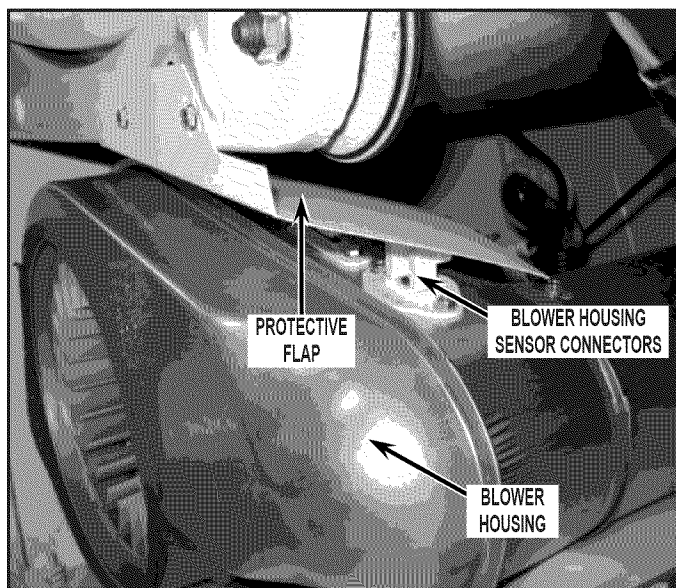

FIGURE 24
- Hanging above the blower housing is a protective flap. Verify flap is laying above the blower housing sensor connectors. See *Figure 24*.